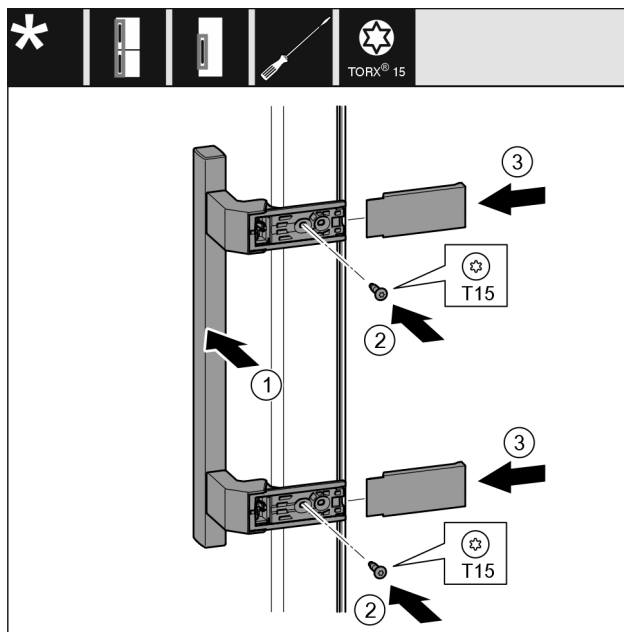

Fig. 21
- Place the handle *Fig. 21 (1)* on the opposite side.
- Tighten screws *Fig. 21 (2)* with screwdriver.
- Place the covers *Fig. 21 (3)* on the side and push them on.